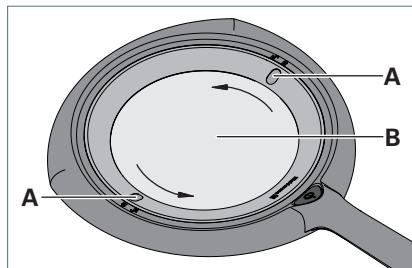

Fig. 5: Remove the lens.
- Turn the ring with the recesses **A** counterclockwise to the two unlocking symbols on the housing, see Fig. 5.